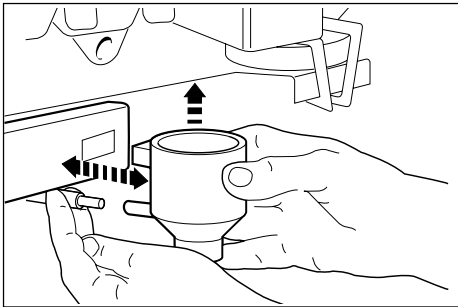

Fig. 30
- Remove the dispensing tubes (7) paying particular attention to the end gaskets. Remove the whipper cap (4) and separate the whipper (5) from the underlying part, also removing the nozzle with silicone tube (Fig. 30). Turn the whipper chamber (6) clockwise and remove it. Clean the mixing fan with a non-abrasive sponge soaked with lukewarm water, without exerting excessive pressure which might damage the sealing gasket.